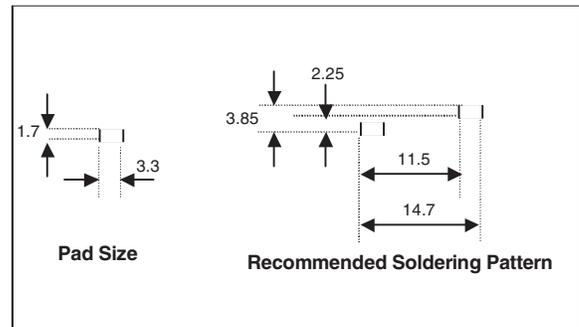

Figure 2. Solder Pad Layout
- Follow the recommended layout for LUXEON Emitter solder pads as shown in figure 2.